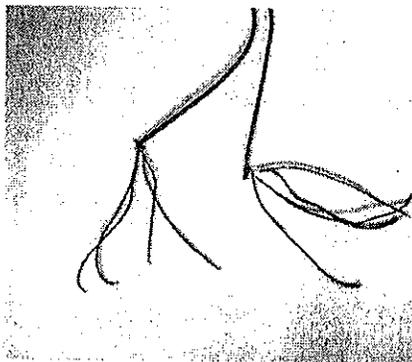

Figure 36:
17. Take the spliced bundle of 4 red (+) wires, and twist the bundled end onto the positive (ribbed/marked) side of the speaker wire. Take the spliced bundle of 4 black (-) wires and twist the bundled end onto the negative (smooth) side of the speaker wire. Solder the connections and cover them with electrical tape, as shown in Figure 36. **ALWAYS USE A VISE OR CLAMP TO HOLD WIRES WHEN SOLDERING!**